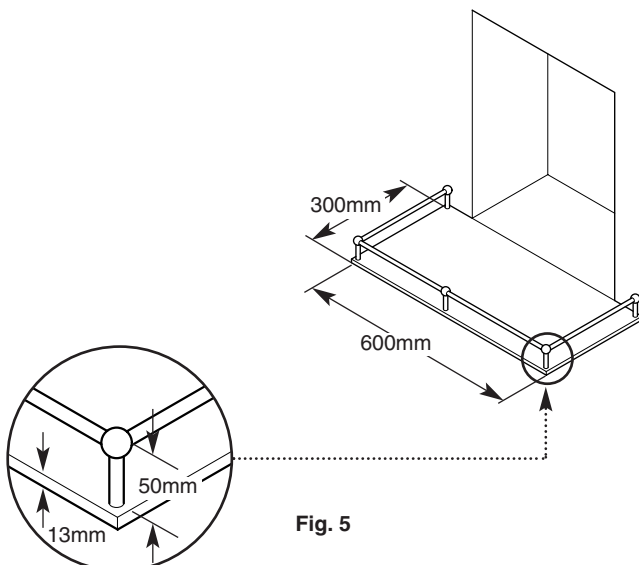

Fig. 5
3. Alternatively, a fender rail or upstanding edge of 50mm (2in) height can be fitted to the periphery of the 13mm (1/2in) non-combustible hearth (Fig. 5).